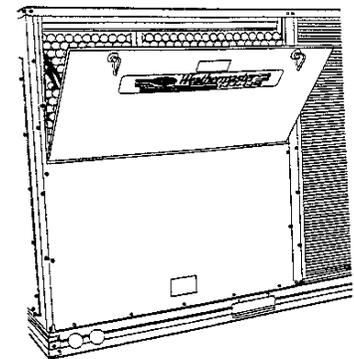

FIGURE 7
2. Slide filters (located in the hinged access panel) out of unit. Replace if dirty. See **Figure 7**.